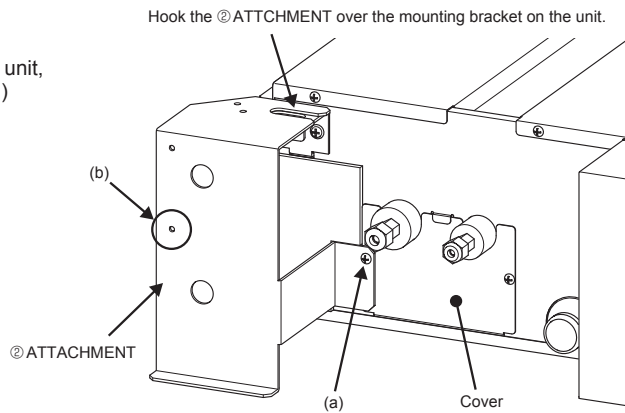

Fig. 1
- (1) Unscrew the (a)screw on the unit cover, hook the ② ATTACHMENT over the mounting bracket on the unit, and screw it on to the unit with the (a)screw. (Fig. 1)
- (2) Temporarily screw in the ⑦ SCREW in the hole (b) on the ② ATTACHMENT. (Fig. 1 and 2)